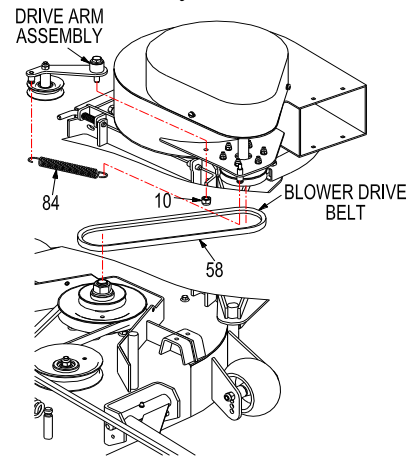

FIG 6
d) Install drive arm assembly and blower drive belt. (FIG 6)